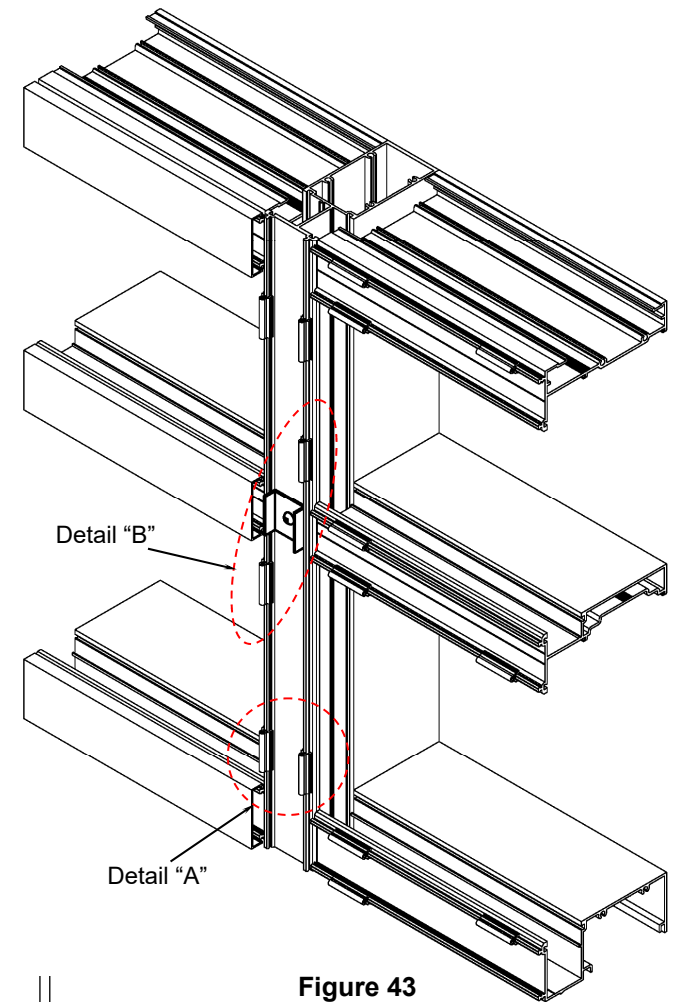

Figure 43
- * Place 2 clips at each end of all pieces of face cover. Do not place clips in area of intersecting framing member. (see detail “A” figure 43)
- * Place 2 clips staggered between 5” to 8” across all intermediate intersections. (see detail “B” figure 43)
- * Attach a cover clip on all vertical covers at an intersecting horizontal member. Locate the clip as close to the vertical mid-span as possible. (see detail “B” figure 43)